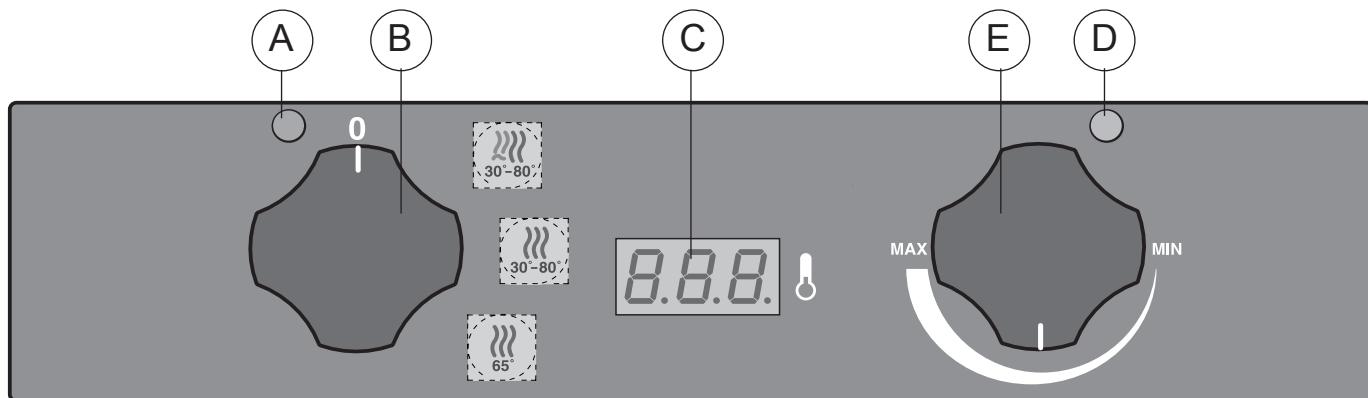

Fig. 4
- 30 - 80 °C for the heating or leavening phase of food with or without humidifying the chamber and checked by thermostat "E" and shown in the thermoregulator "C" (fig. 4);
### 3. START UP SYSTEM (fig. 4)
### 3.1 CONTROL PANEL DESCRIPTION (fig. 4)
### 3.2 START UP SYSTEM (fig. 4)
### 4.1 "HEATING WITH HUMIDIFYING" CYCLE ON "1" SETTING (fig. 4)
### 4.2 "DRY HEATING" CYCLE ON "2" SETTING (fig. 4)
### 4.3 "MAINTENANCE" CYCLE ON "3" SETTING (fig. 4)